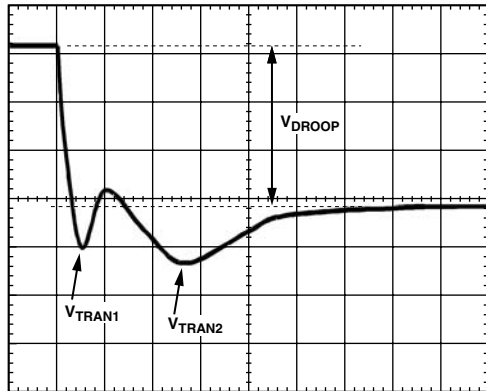
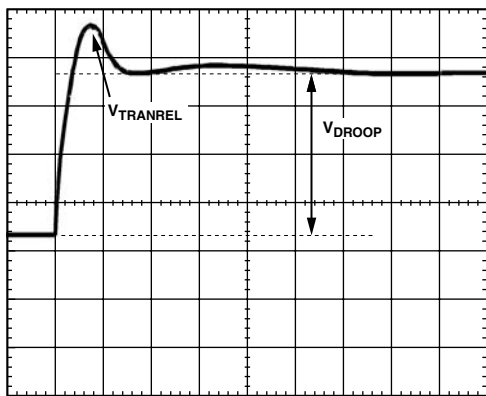

Figure 4. Transient Setting Waveform
Figure 5. Transient Setting Waveform
19. With dynamic load still set at maximum step size, expand scope time scale to see $2 \mu\text{s}/\text{div}$ to $5 \mu\text{s}/\text{div}$. The waveform may have two overshoots and one minor undershoot (see Figure 5). Here, V_{DROOP} is the final desired static value.
21. For load release (see Figure 5), if V_{TRANREL} is larger than V_{TRAN1} (refer to Figure 4), there is not enough output capacitance. Either more capacitance is needed or it is necessary to make the inductor values smaller (if inductors are changed, it is necessary to start design over using the spreadsheet and this tuning guide).